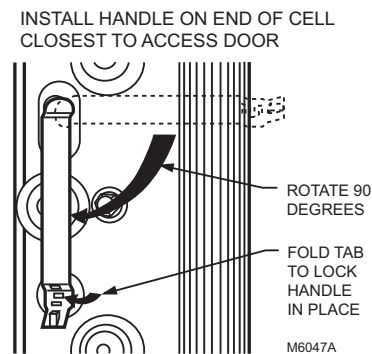

Fig. 9. Install the handle on the end of the cell closest to the access door.
2. Hold the handle sideways and insert the solid tab on the back of the handle into the slot in the cell. Turn the handle 90 degrees clockwise to align the divided tab with the square hole. See Fig. 9.